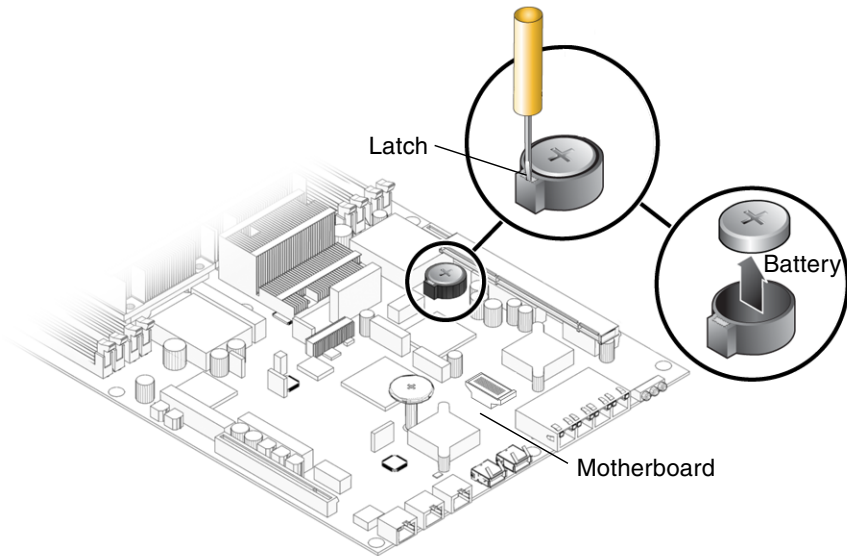

FIGURE 3-38 Removing the Battery
6. Using a small (No. 1 flat-blade) screwdriver, press the latch and remove the battery from the motherboard (FIGURE 3-38).
2. **Press the new battery into the motherboard** (FIGURE 3-38).